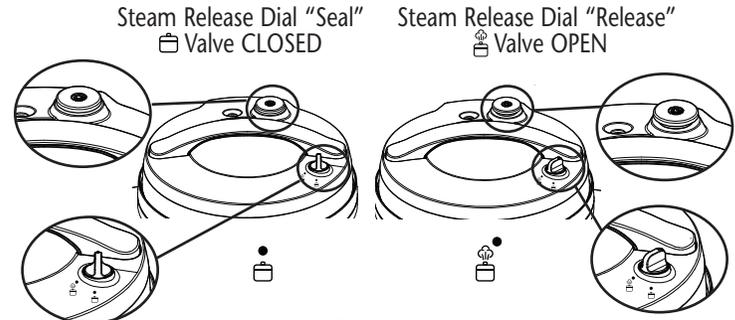

Figure 5
A. **Natural Pressure Release Method:** After cooking cycle is complete, let Cooker naturally release pressure through the Bobber Valve. Unit will gradually cool down on its own. Wait at least 10 minutes after cooking has completed, and then rotate the Steam Release Dial to the "Release" position (see Figure 5). Do not place any part of your hand or body over the Steam Release Valve, as steam is very hot and can scald skin. The pressure has been released when steam is no longer escaping from the valve, the Bobber Valve has dropped completely, and the Lid opens freely with minimal force. This can take up to 10-20 minutes. Never force the Lid open.
B. **Quick Pressure Release Method:** Rotate the Steam Release Dial located at the front of the Lid to the "Release" position (see Figure 5). Steam will release rapidly from the Steam Release Valve on the back of the Lid. Do not place any part of your hand or body on or over the Steam Release Valve, as steam is very hot and can scald skin.